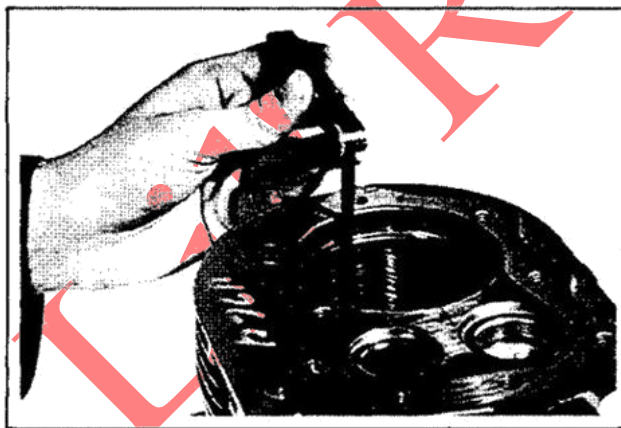

Figure 10-13. Measuring Piston Ring End Gap.
3. Before installing new rings on piston, place top two rings, each in turn, in its running area in cylinder bore and check end gap (refer to Figure 10-13). This gap should be .010"/.032" in a used cylinder bore and .010"/.023" in a new cylinder bore.